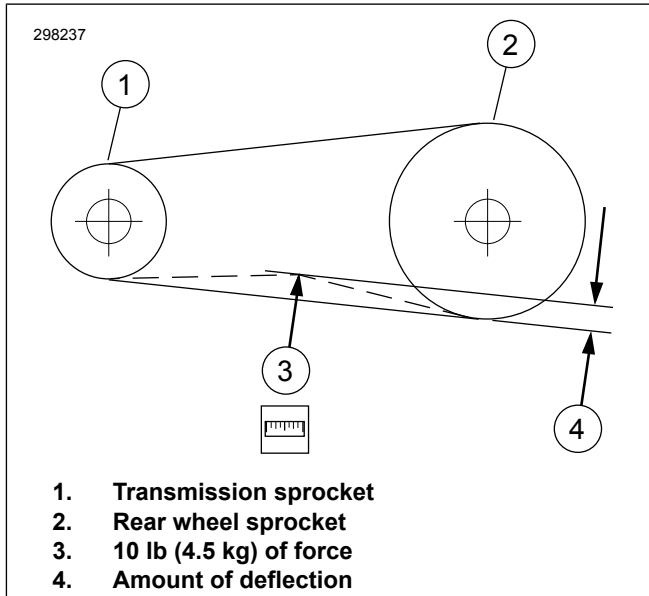

Figure 55. Checking Belt Deflection
- b. **All other models:** See Figure 55. Measure amount of deflection (4) while holding gauge steady.